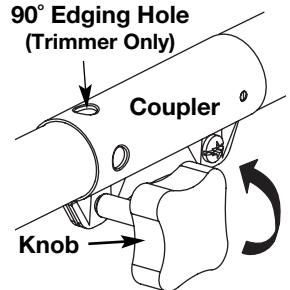
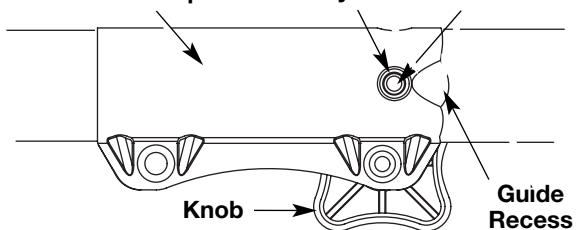
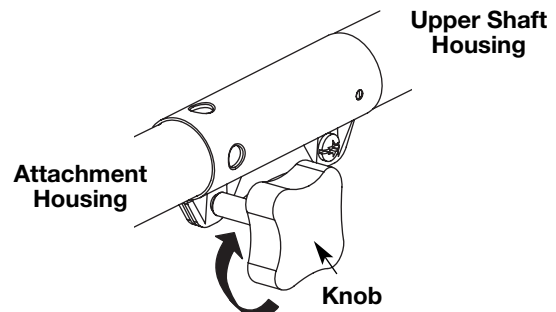

Fig. 11
Fig. 12
Fig. 13
1. Turn knob counterclockwise to loosen coupler (Fig. 11, p. 8).
2. While firmly holding attachment, push it straight into the coupler until the release button snaps into the primary hole (Fig. 12, p. 8).
**NOTE:** Aligning the release button with the guide recess (Fig. 12, p. 8) will help installation.
3. Turn the knob clockwise to tighten (Fig. 13, p. 8).
2. Turn the knob counterclockwise to loosen coupler (Fig. 11).
3. Push in the release button (Fig. 12) and twist the shaft 90° until the release button snaps into the 90° hole (Fig. 11).
4. Turn the knob clockwise to lock the coupler (Fig. 13).
**CAUTION:** Before operating this unit, be sure that the release button is fully snapped into the primary hole (Fig. 12), and that the knob (Fig. 13) is securely tightened.
2. Turn the knob counterclockwise to loosen the coupler (Fig. 11).
3. While firmly holding the add-on, push it straight into the coupler until the release button (Fig. 12) snaps into the primary hole (Fig. 12). The primary hole is on the opposite side of the coupler from the knob (Fig. 12). Align the release button with the Guide Recess (Fig. 12) to help installation.
4. Turn the knob clockwise to tighten (Fig. 13).
3. Press and hold the release button (Fig. 12).
4. While firmly holding the upper shaft housing (Fig. 13), pull the attachment out of the coupler.